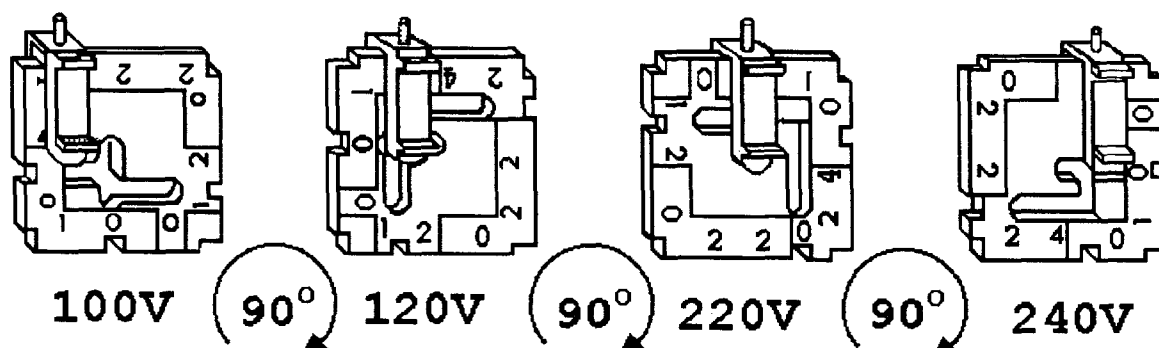

FIGURE 6
4. Along each edge of the voltage selector card the voltage options are printed in large numbers - 100, 120, 220, 240 (Figure 6). Place the card in front of you with the desired voltage printed at the bottom.